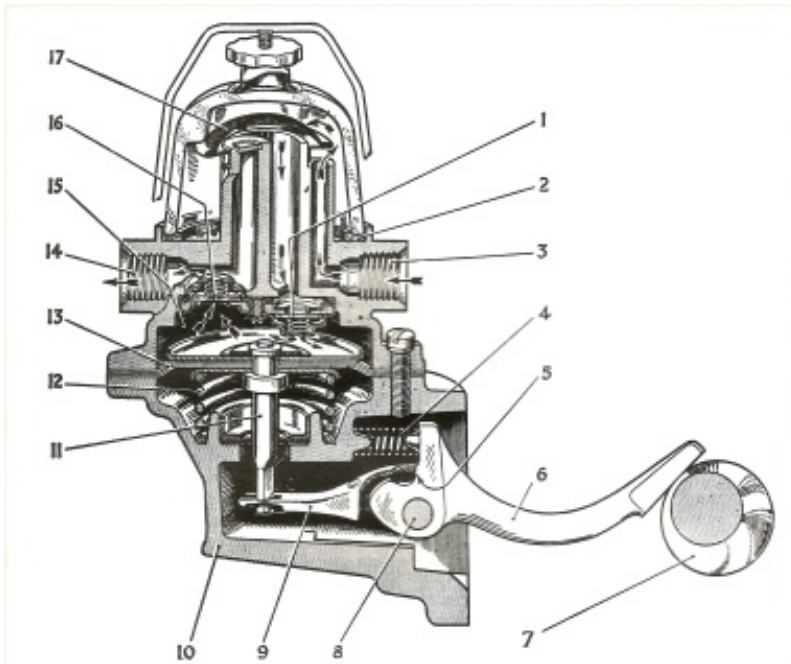

FIG 2:1 The fuel pump in section
Key to Fig 2:1 For key to numbered parts see text
- See FIG 2:1 and remove the six securing set-screws and separate the two halves of the main casing.